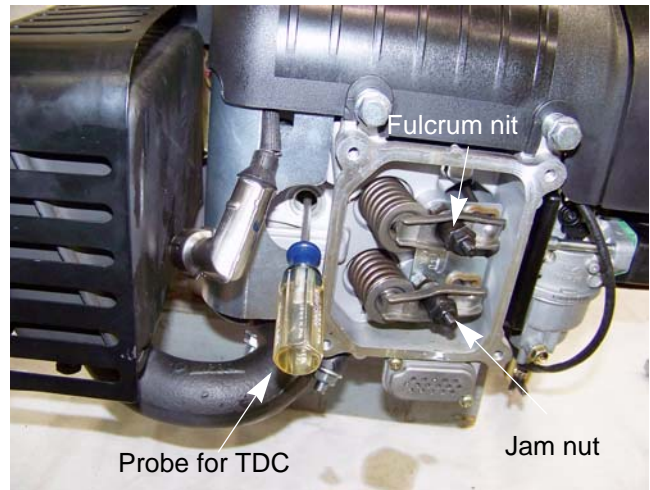

Figure 9.14
4. Rotate the engine to TDC of the compression stroke. See Figure 9.14.